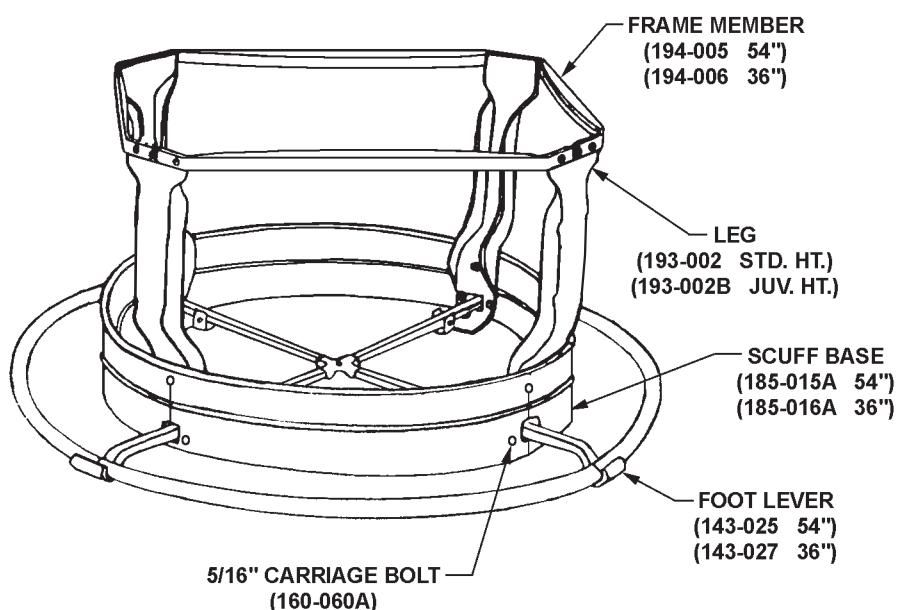

Figure 2
1. Assemble the leg and scuff base panels with the 5/16" carriage bolts and nuts provided (Figure 2).
2. Attach the pedestal frame members with the 5/16" stove bolts and nuts provided (Figures 2 and 3).
3. Add the foot levers and operating cross to the pedestal assembly (Figures 2 and 4).
4. Press the foot rail into place with a rolling motion. The joint of the foot rail should be placed in the clevis of one of the foot valves (Figure 2).